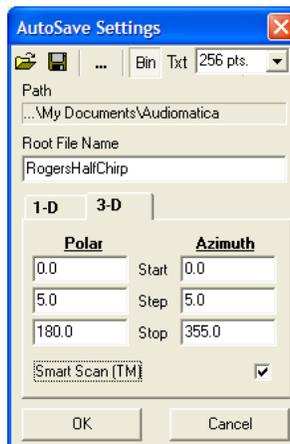

Fig.5.3b Autosave settings - 3D mode
**Path** defines the folder where the file will be saved; it is possible to choose it clicking on the browse for folder button (...). In Fig.5.3b we see path defined as My Documents\Audiomatica
**Root File Name** defines the part of the file name that will not change during autosave; in Fig.5.3b it is 'RogersHalfChirp'.